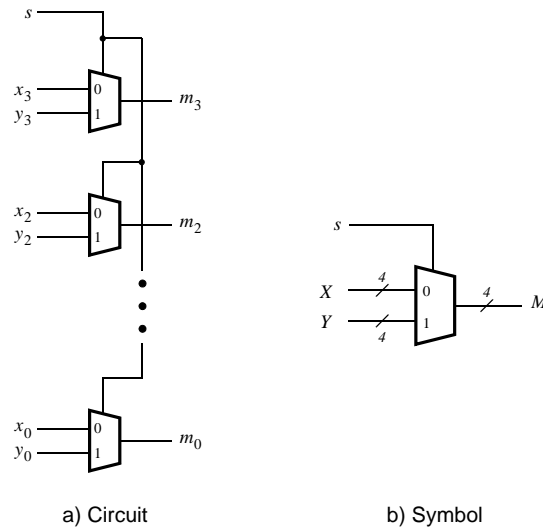
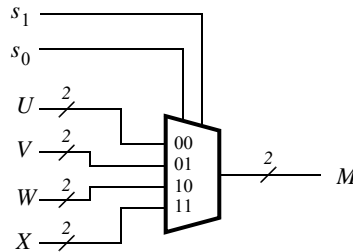

Figure 3: A four-bit wide 2-to-1 multiplexer.
Figure 5: A two-bit wide 4-to-1 multiplexer.
- browse through the datasheet for the FPGA you will use, the Intel Max 10 FPGA. Specifically, look at the chip floorplan shown in **figure 1** and the programmable logic elements shown in **figure 5**.
Recall from Figure 3 that a four-bit wide 2-to-1 multiplexer can be built by using four instances of a 2-to-1 multiplexer. Figure 5 applies this concept to define a two-bit wide 4-to-1 multiplexer. It contains two instances of the circuit in Figure 4a.